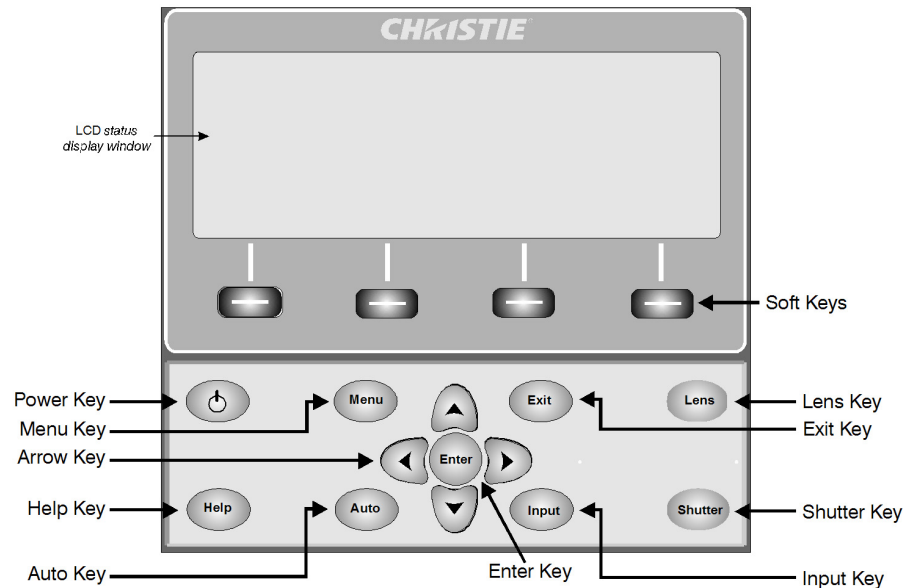

FIGURE 3-2 BUILT-IN KEYPAD
- **Built-in Keypad** located at the side of the projector (Figure 3-2).